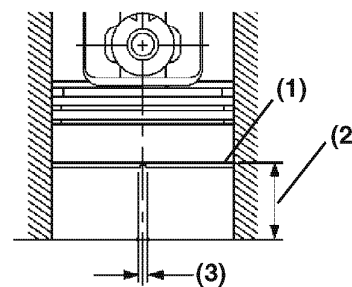

Figure 8-53
10. To measure piston ring end gap, insert each compression piston ring (**Figure 8-53, (1)**), one at a time, into the cylinder. Use a piston with the piston rings removed to slide the ring into the cylinder bore until it is approximately 1.18 in. (30 mm) (**Figure 8-53, (2)**) from the bottom of the bore.
11. Remove the piston. Measure the end gap (**Figure 8-53, (3)**) of each piston ring. Record the measurements. See *Piston Ring on page 8-10* for specifications.